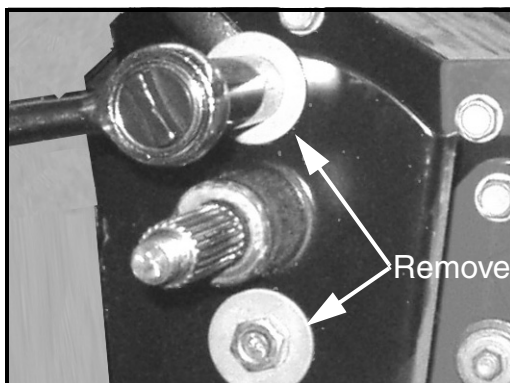

FIGURE 5
12. Using a 5/8" socket and ratchet and a 1/2" box wrench, remove the two shoulder bolts, flat washers and flange lock nuts securing the RH track side plate to the track hub assembly. Remove the RH track side plate. Discard the flange lock nuts only. See Figure 5.